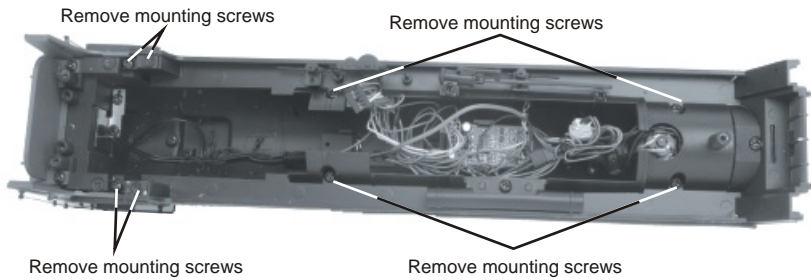

Figure 7
3. Remove the mounting screws shown in (Fig 7).